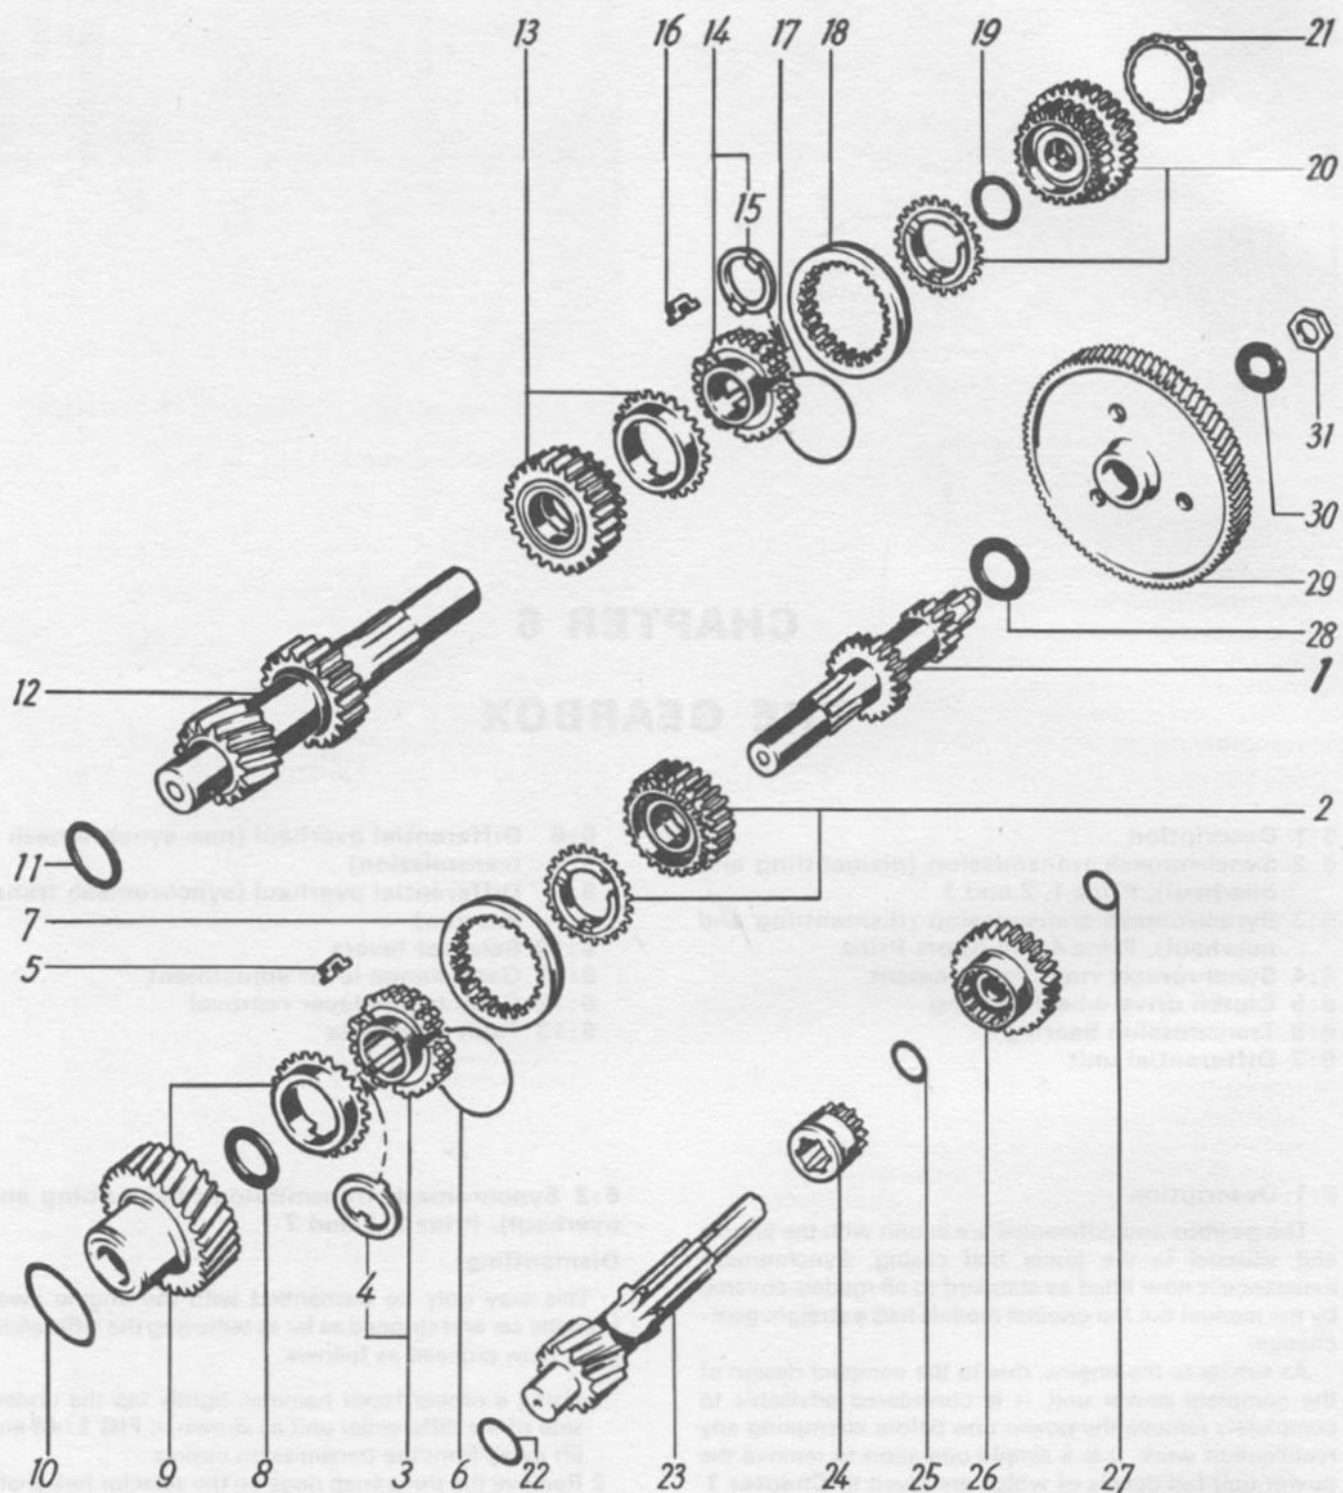

FIG 6:1 Gearbox internal components
- 3 Using a suitable size parallel pin punch drive out the selector shafts from below and lift away the selector shafts together with their forks still attached. At the same time also lift away the mainshaft and its shims as one complete assembly as shown in **FIG 6:2**.